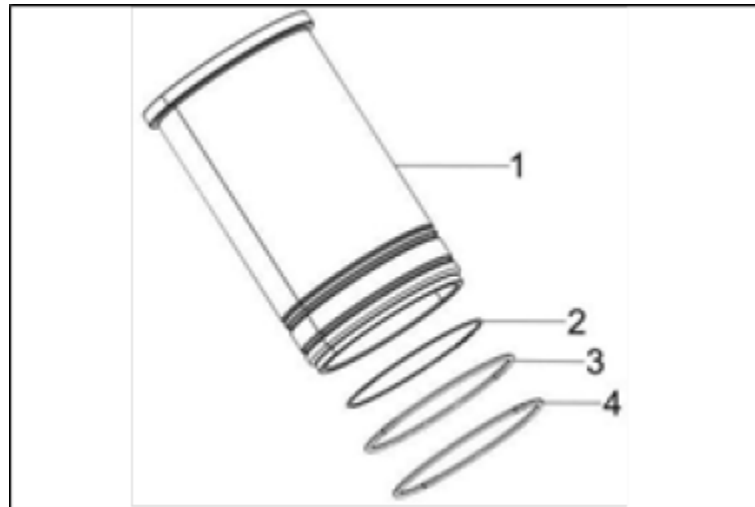

Figure 95.
4. Disassemble the O-rings from the cylinder liner (Figure 95).